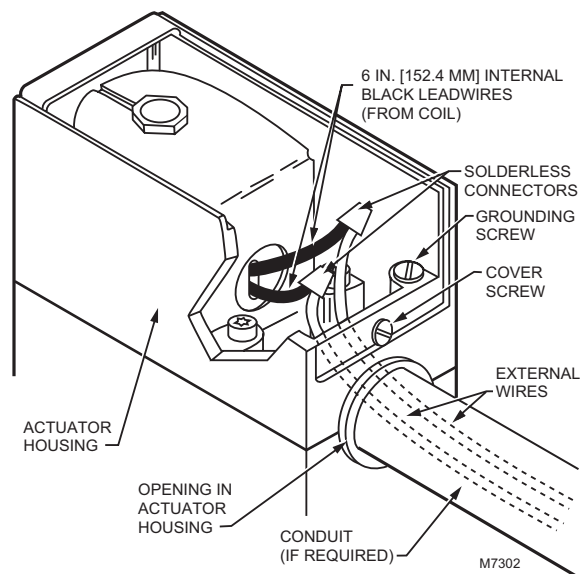

Fig. 12. Wiring connections and actuator housing.
Replacing the coil assembly (Figs. 12 through 15)
- Loosen the cover screw in the front of the actuator housing (Fig. 12) and remove the housing cover.
- Disconnect the external wires from the two internal black leadwires (Fig. 12).
- Reconnect the external wires to the two internal black leadwires (Fig. 12).
- Replace the housing cover, and tighten the cover screw holding it to the actuator housing (Fig. 12).